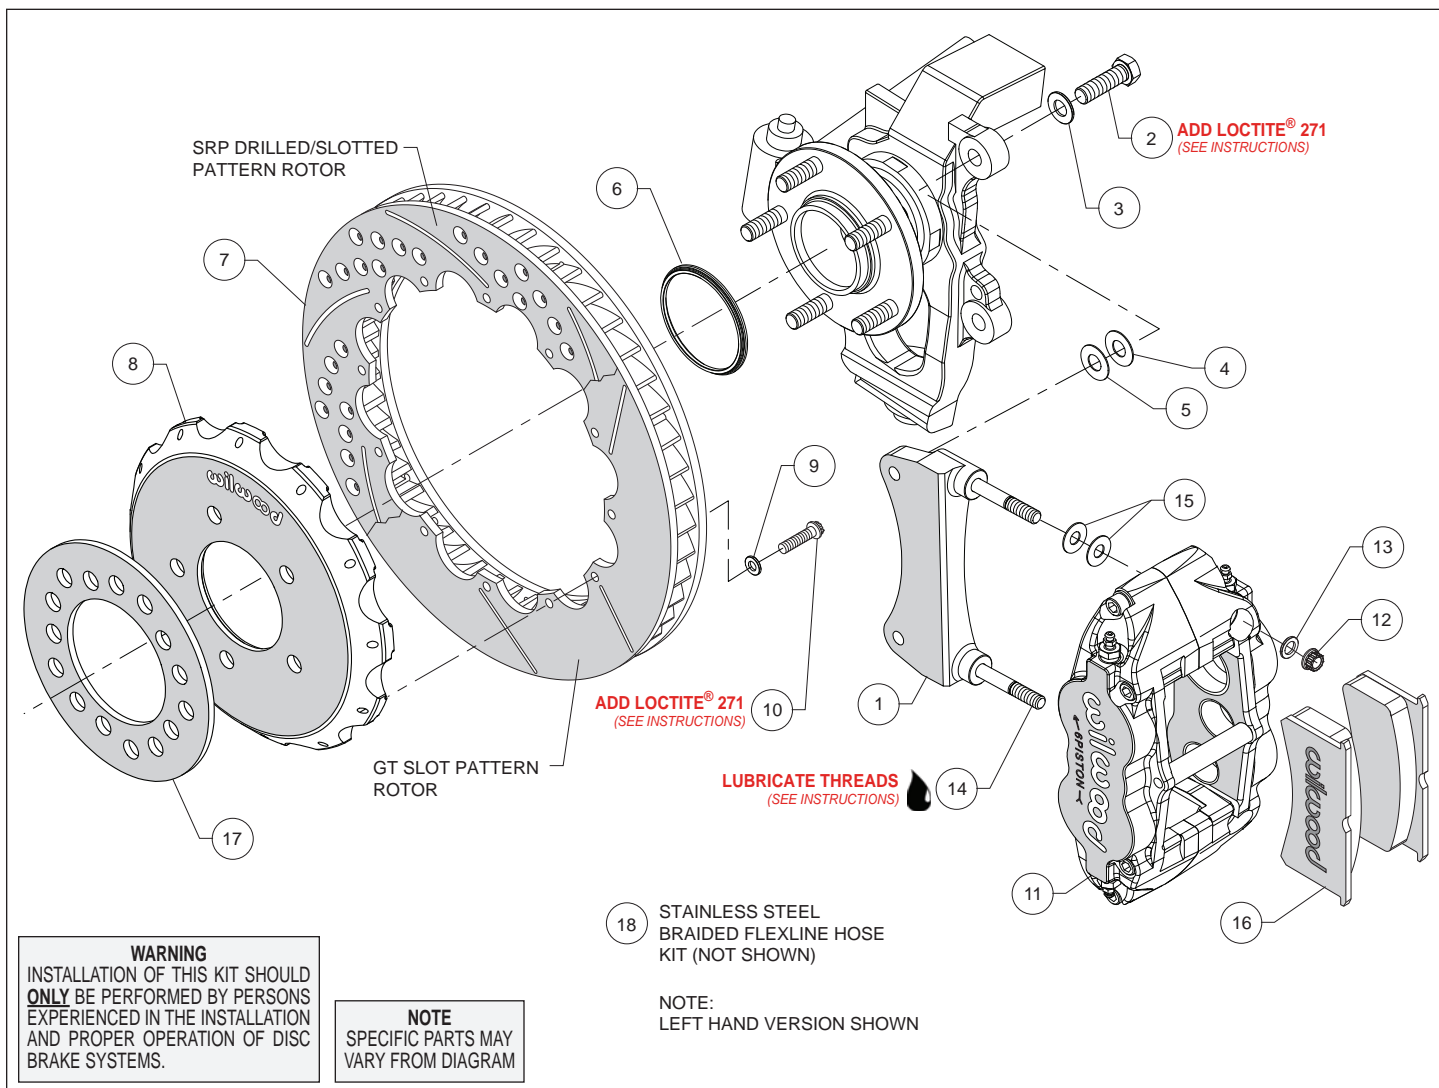
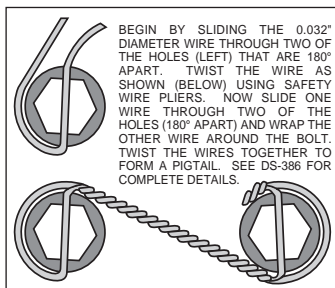

Figure 1. Typical Installation Configuration
Figure 3. Safety Wire Diagram
Assembly Instructions (numbers in parenthesis refer to the parts list and Figure 1 on the preceding pages):
- The caliper mount bracket (1) should initially be installed with clean, dry threads on the mounting bolts. Orient the bracket as shown in Figure 1 and Photo 1, and install using washers (3) and bolts (2). Initially place one .033 thick shim (4) and one .015 thick shim (5) on each bolt between the bracket and upright, Figure 1. Temporarily tighten the mounting bolts. **NOTE:** *The bracket must fit squarely against the mount bosses on the upright.* Inspect for interference from casting irregularities, machining ridges, burrs, etc. Later, after the caliper alignment has been checked, the mount bolts will be secured using red *Loctite*[®] 271.
- Orient the rotor (7) and the hat (8) as shown in Figure 1 and Photo 2. Attach rotor to hat using bolts (10) and washers (9). Using an alternating sequence, apply red *Loctite*[®] 271 to the threads, and torque to 155 **in-lbs**. For an added measure of security, the bolts may be safety wired using standard 0.032 inch diameter stainless steel safety wire as shown in Figure 3. Please refer to Wilwood's data sheet DS-386 (available at www.wilwood.com/Pdf/DataSheets/ds386.pdf) for complete safety wire installation instructions.
- Slide the rotor registration adapter (6) onto the axle register on the axle hub with the smaller O.D. facing outward, Photo 3. Slide the hat/rotor assembly onto the axle hub. **NOTE:** *The hat must fit flush against the axle hub flange or excessive rotor run out may result.* Install three lug nuts (finger tight) to keep the hat/rotor assembly in place while continuing with the installation.
- NOTE:** *This kit contains distinct right and left hand calipers that must be mounted in a specific direction, as described below.* Lubricate the caliper mounting studs (14) with lightweight oil. Initially place two .035" thick shims (15) on each stud as shown in Figure 1 and Photo 4. Mount the caliper (11) onto the bracket (1) using lock nuts (12) and washers (13), Figure 1. Ensure that the caliper is mounted so that the largest pistons are at the rotor exit end of the caliper, in relation to the direction of rotor rotation. Temporarily tighten the lock nuts and view the rotor through the top opening of the caliper. The rotor should be centered in the caliper, Photo 5. If not, adjust by adding or subtracting shims (4 and/or 5) between the bracket and the upright. Always use the same amount of shims on each of the two mounting bolts. Once the caliper alignment is correct, remove the bracket mounting bolts (2) one at a time, apply red *Loctite*[®] 271 to the threads, and torque to 60 ft-lb.
- Install the wheel spacer (17) against the hat face, Figure 1 and Photo 8. **NOTE:** *Spacer is required to clear stock wheels.* Temporarily install the wheel and torque the lug nuts to the manufacturer's specification. Ensure that the wheel rotates freely without any interference.